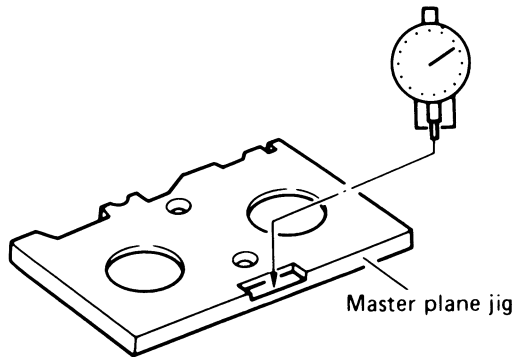

Fig. 3 Master plane jig setting
1. Set the master plane jig as shown in **Fig. 3**.